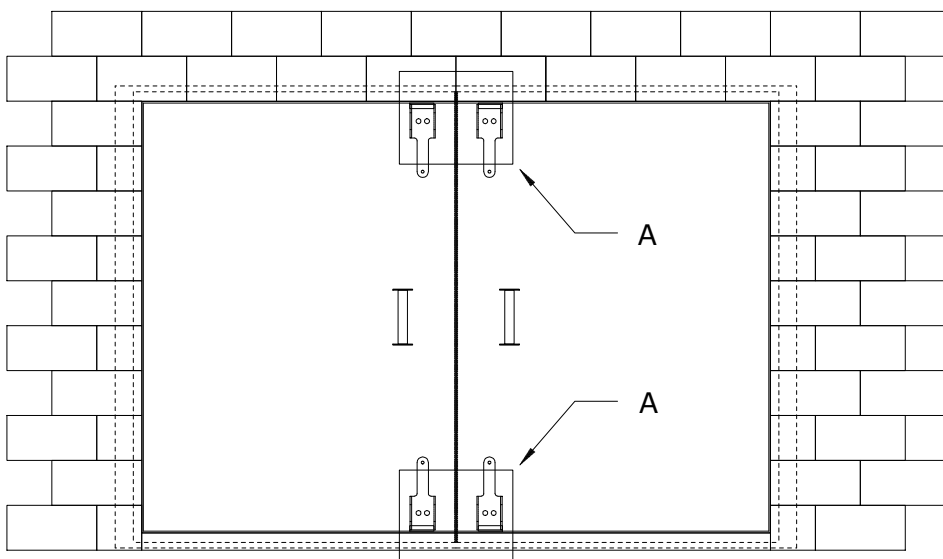

Figure 19
- b. Set the gap distance between the doors edges as shown figure 19 and 19A using the two provided  $3/16$ " thick metal shim bars as spacers.